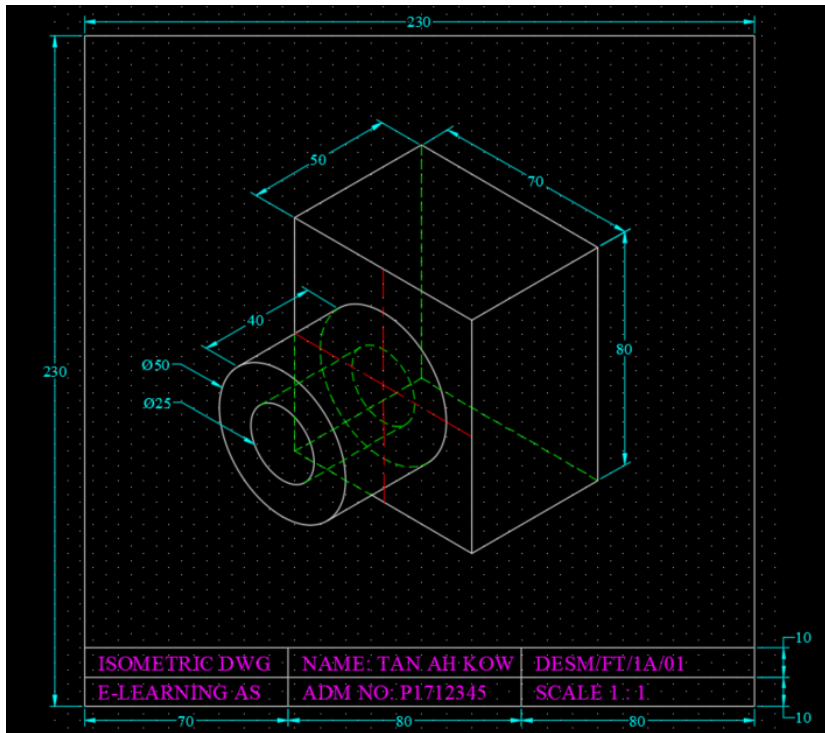

FIG 1A
3. Draw the isometric drawing shown below (FIG 1A):